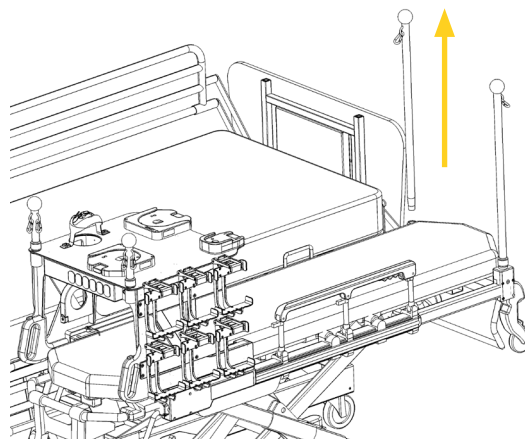

Figure 4: Removing the push bar at patient head end
5. At the patient head end, locate the push bar situated between the bed and the stretcher (Figure 4).
7. Pull the push bar upwards, while gently rotating the bar to remove it (Figure 4). Set aside the push bar temporarily.